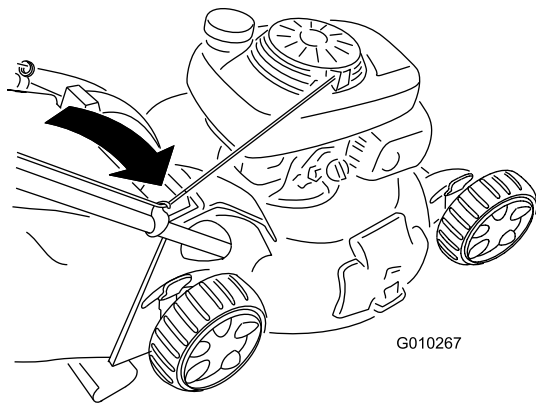

Figure 32
2. Route the starter rope around the lower rope guide (Figure 32).